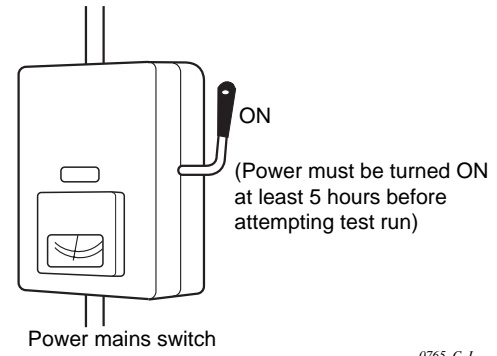

Fig. 12-1
- (1) All loose matter is removed from the cabinet especially steel filings, bits of wire, and clips.
- (2) The control wiring is correctly connected and all electrical connections are tight.
- (3) The protective spacers for the compressor used for transportation have been removed. If not, remove them now.
- (4) The transportation pads for the indoor fan have been removed. If not, remove them now.
- (5) The power has been connected to the unit for at least 5 hours before starting the compressor. The bottom of the compressor should be warm to the touch and the crankcase heater around the feet of the compressor should be hot to the touch. (Fig. 12-1)